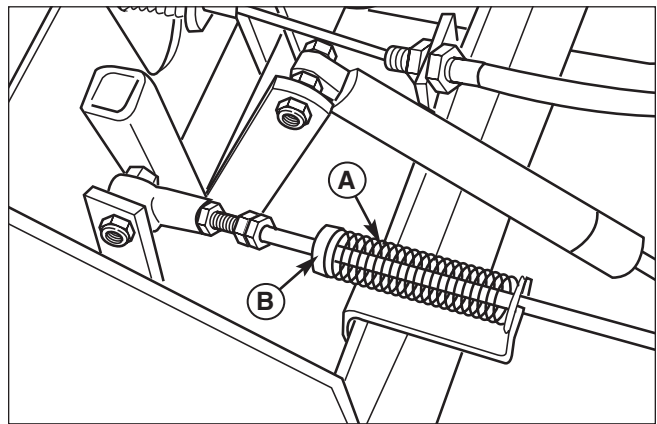

Figure 32. Return to Neutral Adjustment
1. Loosen the set collar (B, Figure 32) locked against the return spring (A).